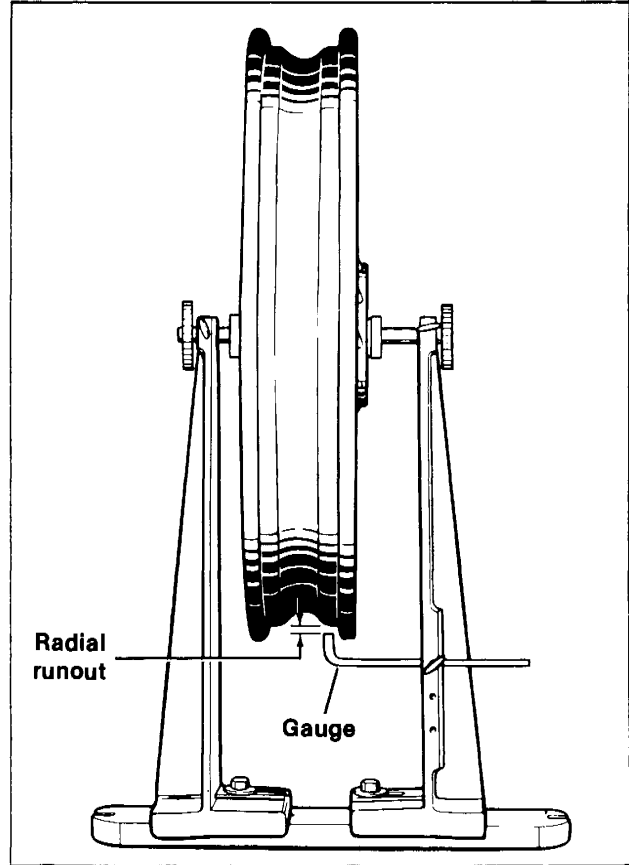

Figure 2-25. Checking Rim Radial Runout
2. See Figure 2-25. Check for radial runout as shown here. Replace the wheel if runout exceeds $1/32$ in.